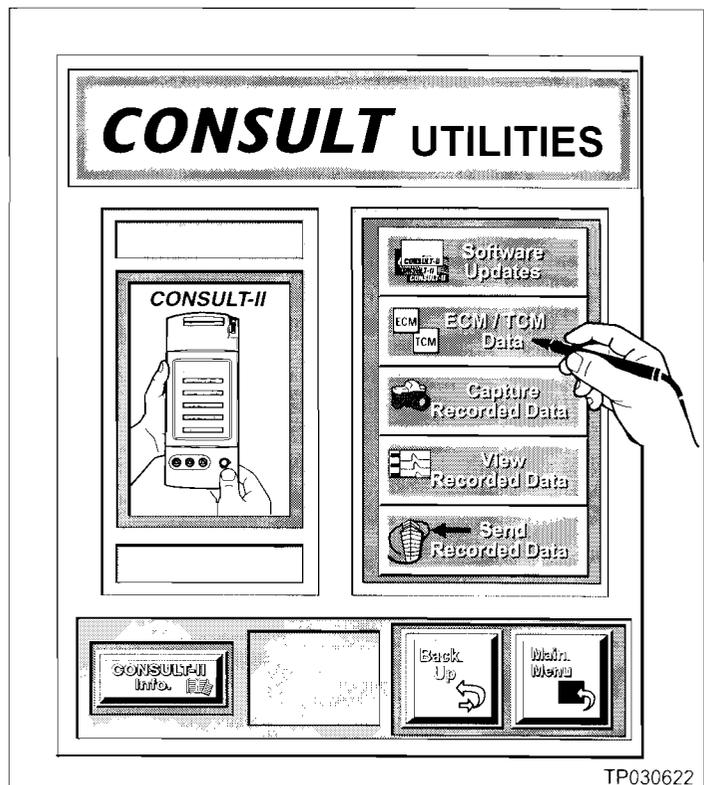

Figure 4
- From the **"CONSULT UTILITIES"** screen, select **"ECM / TCM DATA"** (see Figure 4).